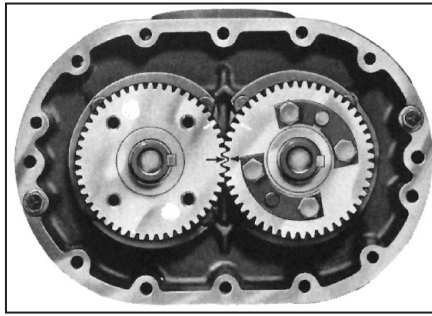

Figure 12 - Keyways in line and timing marks matched
10. Rotate drive gear in a clockwise rotation approximately 4 or 5 teeth and mark this location, see Figure 12. This gear position is necessary so rotors will clear and not jam. Do not allow the reference marks to change location while the driven gear is being removed.
20. Lubricate shafts and install driver gear (right hand helix) on drive rotor (left side). To install driven gear, align reference marks as shown in Figure 12 on page 29. Install driven gear carefully to avoid mashing any teeth when engaging opposite gear.